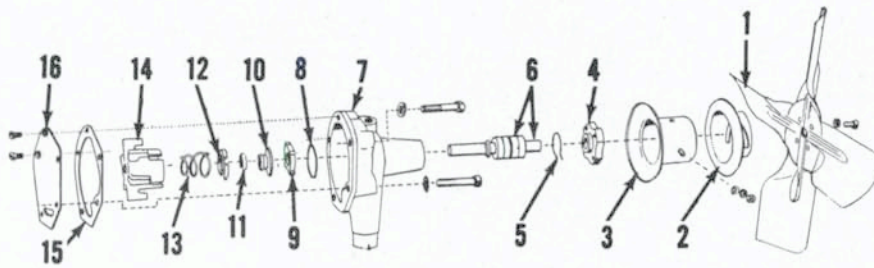

Fig. 86—Exploded view of D-14 and D-15 non-diesel water pump and fan assembly.
137. **OVERHAUL.** To overhaul the removed water pump, first remove the cover (16—Fig. 86); then, using a suitable puller, remove impeller from rear end of shaft. Carbon thrust washer (9) and seal assembly can be removed from impeller after removing snap ring (8). Shaft and bearing assembly (6) can be pressed out front of body after removing snap ring (5) from behind fan hub (4). Hub can be pressed from shaft.